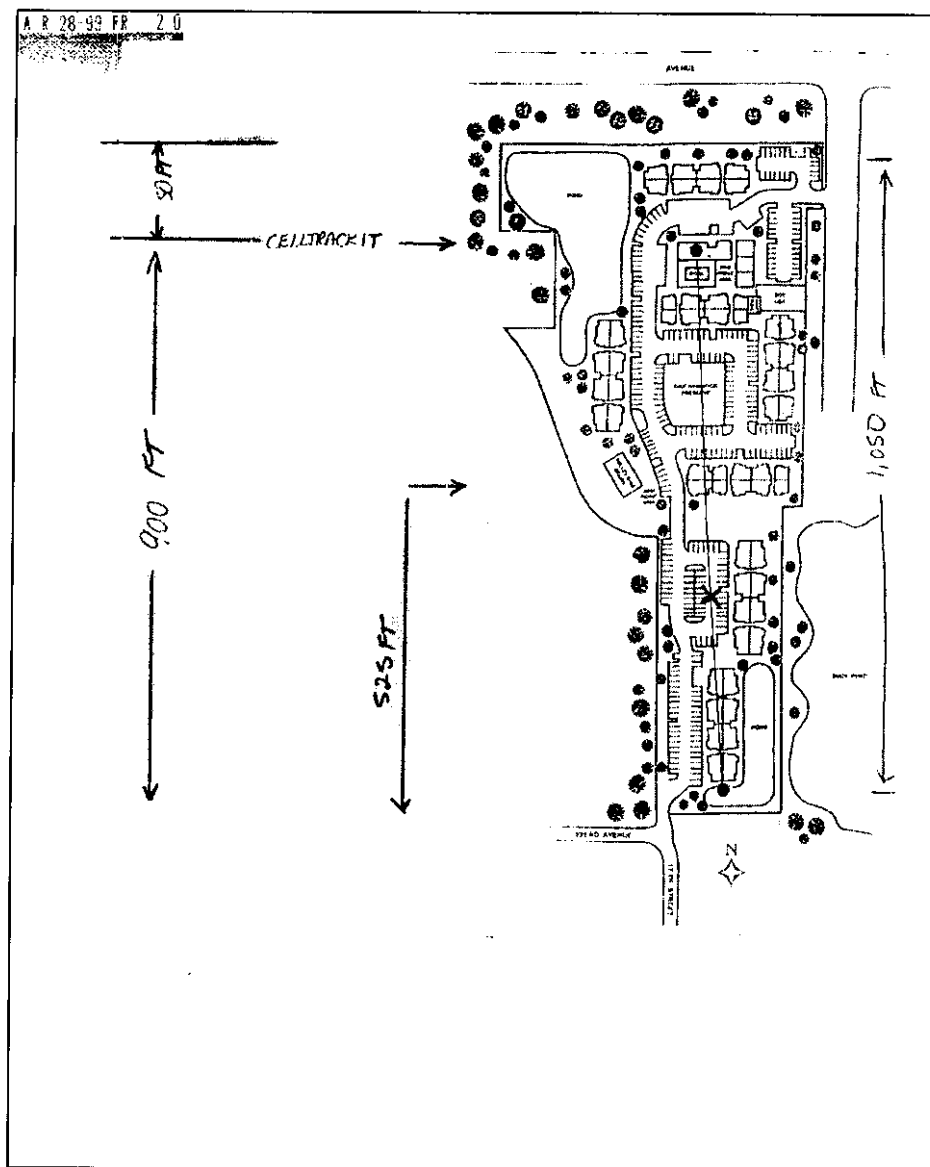

Figure 6. Determine Furthestmost Points
- With a site map determine the furthestmost points from the designated receiver unit location. The furthestmost point is that apartment that has the greatest distance from the CellTrackIT receiver antenna location. Determine the furthestmost points in all directions from the node receiver antenna location. Measure the distances and plot on the map (see Figure 6).